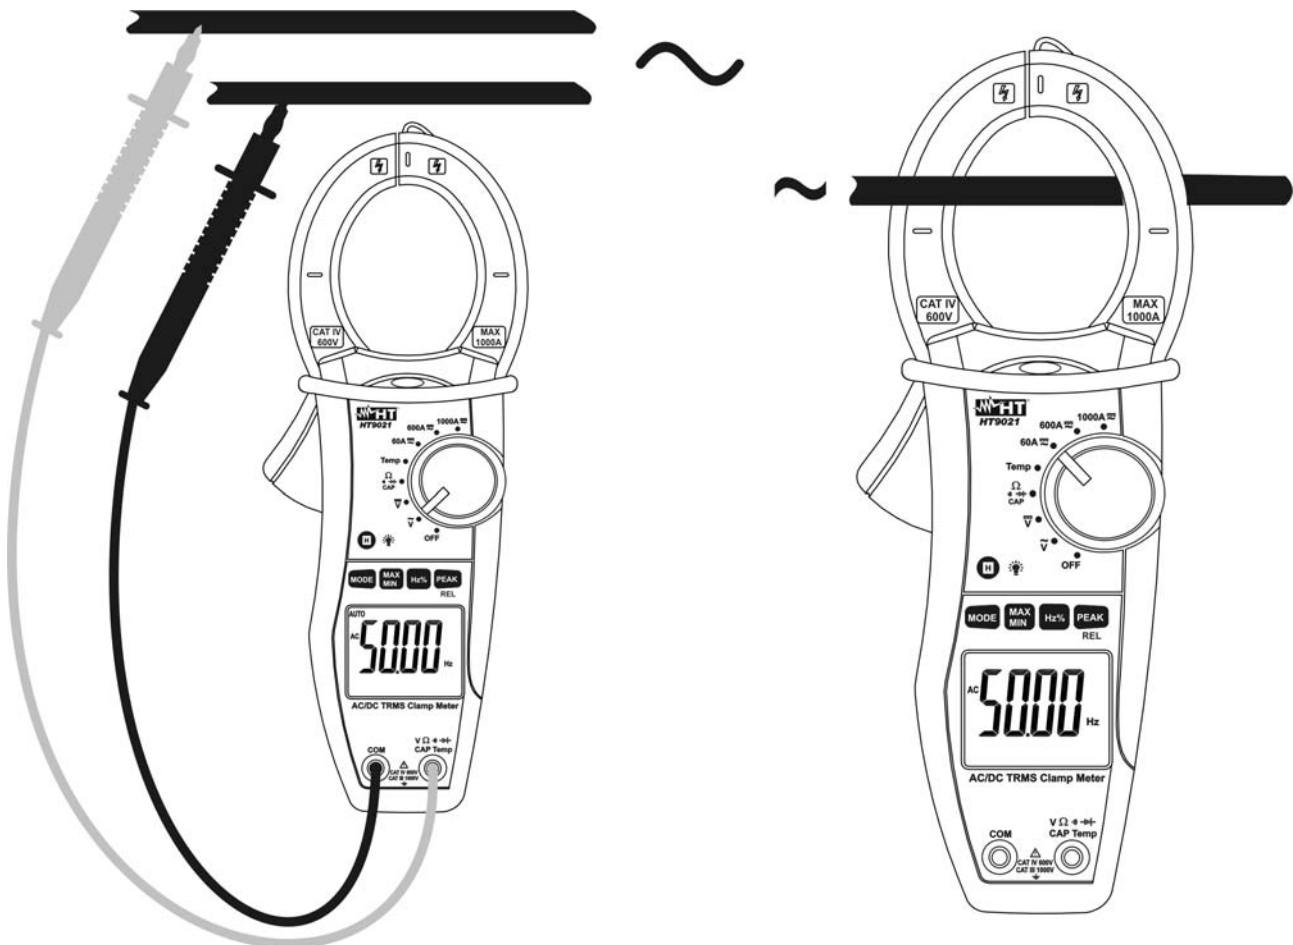

Fig. 10: Taking frequency and duty cycle measurements
3. Insert the red test lead plug into **VΩ/Hz/CAP/Temp** jack and the black test lead plug into **COM** jack (see Fig. 10 – left side) for frequency measurement with test leads. Open the clamp and put the conductor to be tested in the middle of the clamp jaw (see Fig. 10 – right side) for frequency measurements with jaws, then reading will be displayed. Bargraph is disabled in frequency and duty cycle test